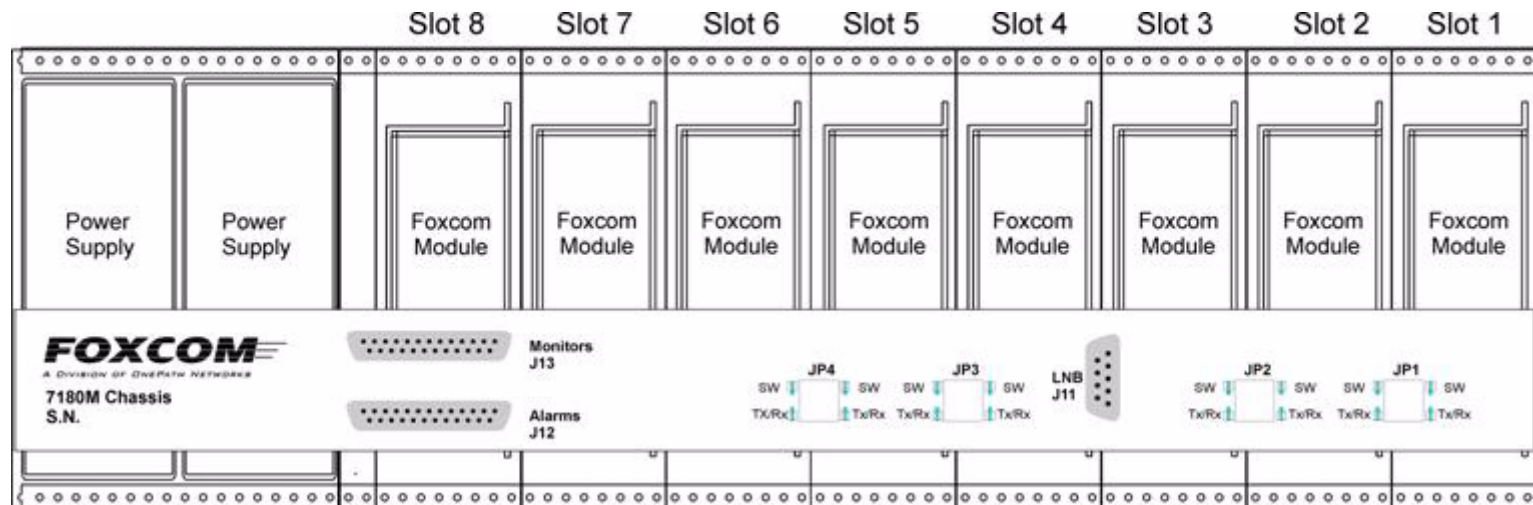

Figure 7 7180M Chassis Rear View
1. Place the **7830R** Receiver in any of the 7180M Chassis, unless a 2040 RF Switch is installed. (See **Figure 7 7180M Chassis Rear View** on page 12.)